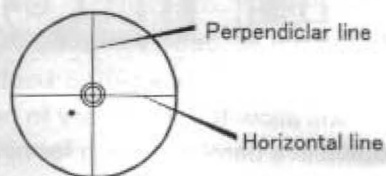

Fig. C-7
- ④ Insert the collimating eyepiece and tilt the secondary mirror until the dot on the surface in over the center of the crosshairs. In the illustration Fig. C-7, the center of the collimating eyepiece matches the center of the crosshair, but the secondary dot is located low and to the left. The secondary must now be tilted toward the primary mirror mark (+) and the (+) must be moved upwards.